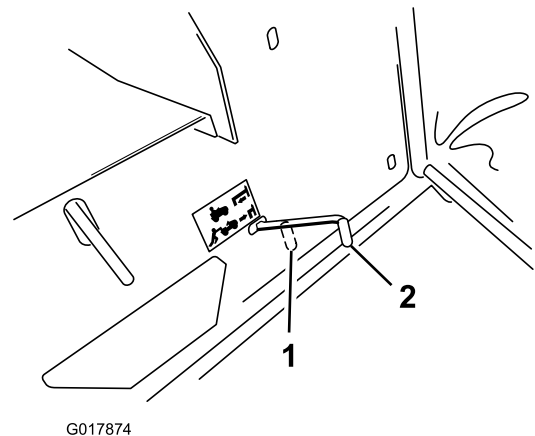

Figure 13
Note: This disengages the drive system and allows the wheels to turn freely (Figure 13).
2. Pull the drive control into the Operate position (Figure 13) to engage the drive system.